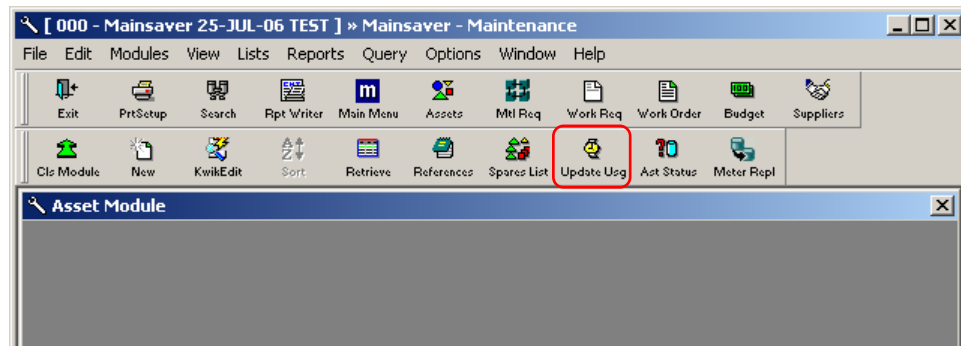

Figure 15 Top of the Maintenance module Asset Module window with Update Usg button.
Asset module window appears (Figure 15).
- 2 Click on the Update Usg button (Figure 15).